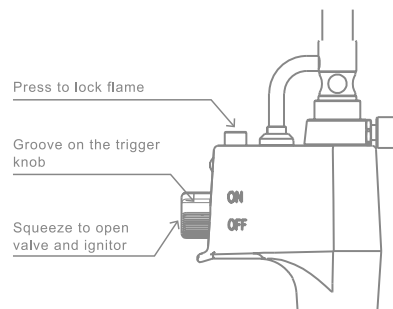

Figure 6: Trigger Lock and Safety Lock
- Make sure the trigger is in the "ON" position (see Figure 6).